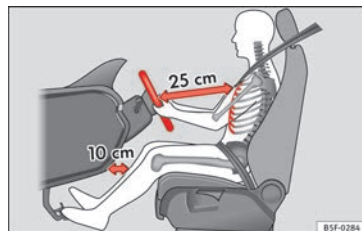
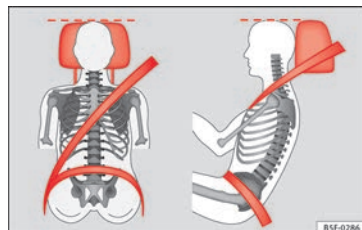

Fig. 79 The correct distance between the driver and the steering wheel must be at least 25 cm (10 inches).
Fig. 80 Correct belt web and head restraint positions
- Adjust the head restraint so that its upper edge is at the same level as the top of your head, or as close as possible to the same level as the top of your head and under no circumstances below eye level. Keep the back of your neck as close as possible to the head restraint »» Fig. 79 and »» Fig. 80.
- Adjust the steering wheel so that there is a distance of at least 25 cm (10 inches) between it and your chest »» Fig. 79 and so that you can hold the steering wheel with both hands on the outside of the ring at the 9 o'clock and 3 o'clock positions with your arms slightly bent.
- Adjust the driver seat forwards or backwards so that you are able to press the accelerator, brake and clutch pedals to the floor with your knees slightly angled and the distance between your knees and the dash panel is at least 10 cm (4 inches) »» Fig. 79.